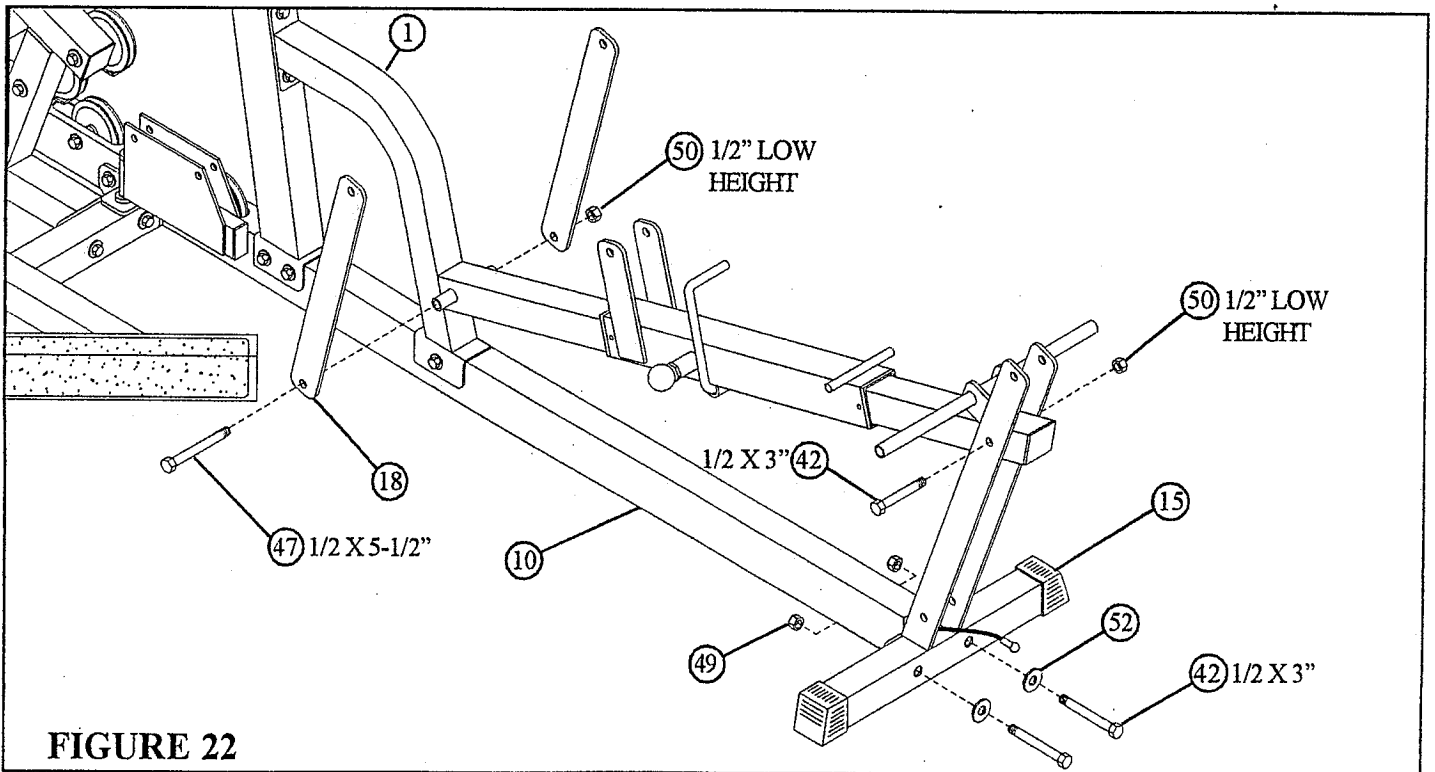

**FIGURE 21**
- Slide the 1/2" DIA U-PIN (55) through the bushing in the WOLFF SLEEVE (2) then force 1/2" PAL NUT (54) over end of 1/2" DIA U-PIN (55).
- Slide the WOLFF SLEEVE (2) over the FRAME SUPPORT (1). (NOTE: Make sure the spring pin barrel is facing as shown in FIGURE 21.)
- Securely assemble one 3/8" SPRING PIN ASSEMBLY (71) and one THUMBSCREW (95) to the WOLFF SLEEVE (2).